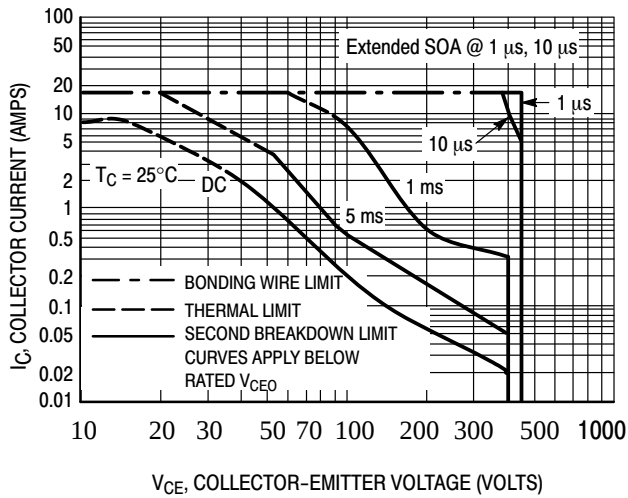
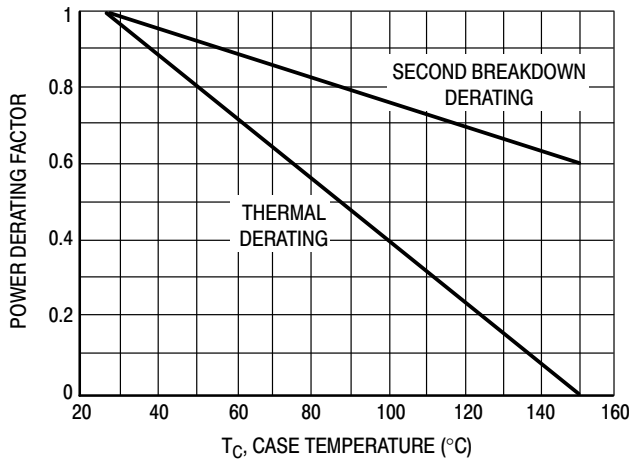

Figure 6. Maximum Forward Bias Safe Operating Area
Figure 8. Forward Bias Power Derating
| Second Breakdown Collector Current with Base Forward Biased | I S/b | See Figure 6 |  |  |  |
The data of Figure 6 is based on  $T_C = 25^\circ\text{C}$ ;  $T_{J(pk)}$  is variable depending on power level. Second breakdown pulse limits are valid for duty cycles to 10% but must be derated when  $T_C \geq 25^\circ\text{C}$ . Second breakdown limitations do not derate the same as thermal limitations. Allowable current at the voltages shown on Figure 6 may be found at any case temperature by using the appropriate curve on Figure 8.
The sustaining or active region voltage requirements in switching applications occur during turn-on and turn-off. If the load contains a significant capacitive component, high current and voltage can exist simultaneously during turn-on and the pulsed forward bias SOA curves (Figure 6) are the proper design limits.
2. The turn-on time does not exceed 10  $\mu$ s (see standard pulsed forward SOA curves in Figure 6).